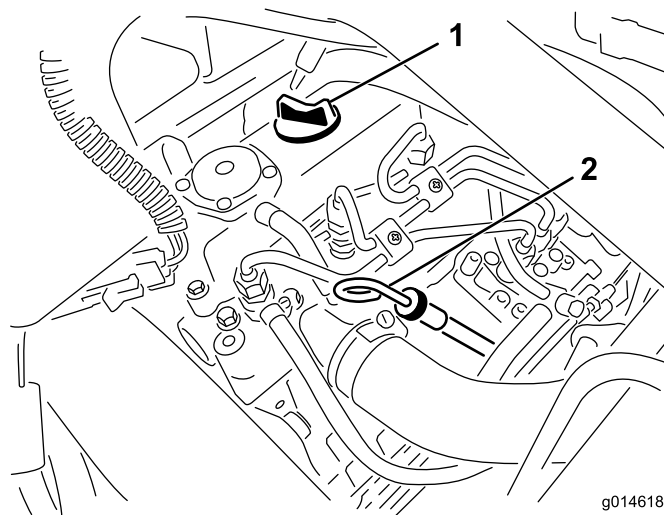

Figure 25
- Remove the dipstick and wipe it with a clean rag (Figure 25). Push the dipstick into the tube and make sure it is seated fully. Remove the dipstick from the tube and check the level of oil. If the oil level is low, remove the filler cap from the valve cover and **slowly** add enough oil to raise the level to the Full mark on the dipstick. Add the oil slowly and check the level often during this process. **Do not overfill.**